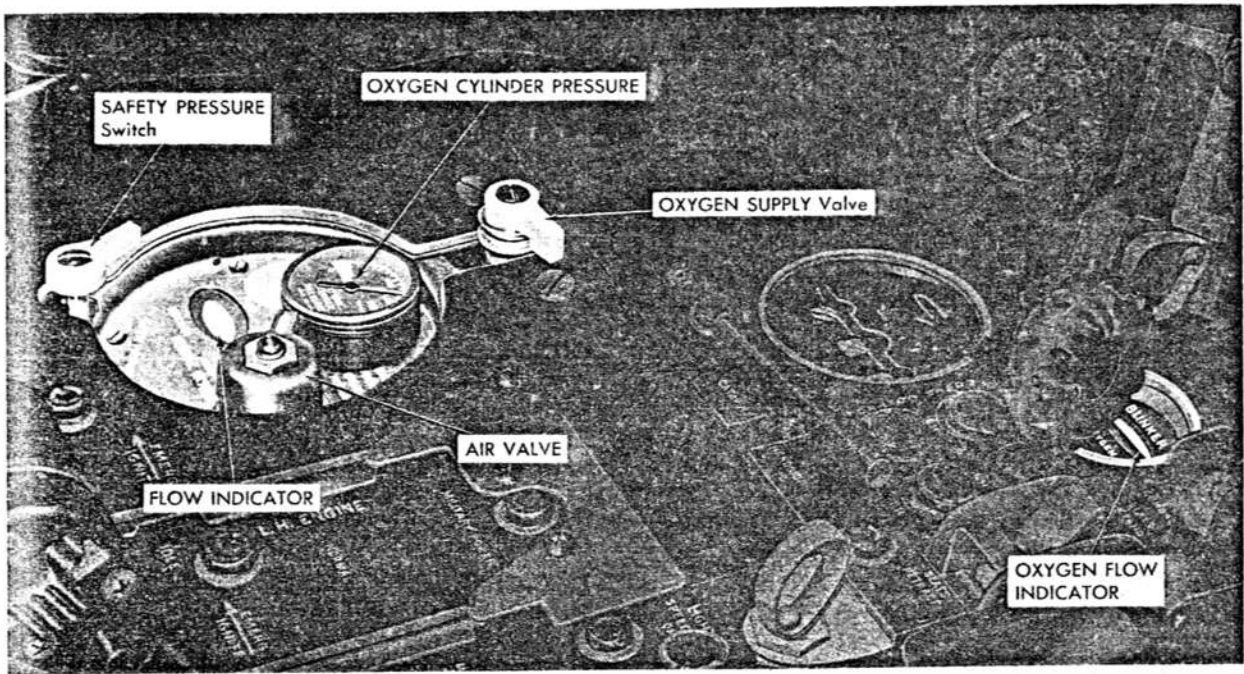

Figure 4-11. Oxygen Controls
**OXYGEN SUPPLY VALVE.** The OXYGEN SUPPLY valve (figure 4-11) is located on the forward part of the regulator and acts as a shutoff valve between the oxygen cylinder and the regulator. The valve should be turned "ON" during the preflight oxygen check and turned off at the end of the flight. The position of the OXYGEN SUPPLY valve does not affect the reading of the OXYGEN CYLINDER PRESSURE gage.
**AIR VALVE CONTROL.** The air valve control (figure 4-11) is located in the center of the regulator. When the control is turned to the "NORMAL OXYGEN" position, it controls the air-oxygen mixture ratio which supplies the pilot with an air-oxygen mixture up to a cabin pressure altitude of 30,000 feet and
pure oxygen at higher altitudes. When the control is turned to the "100% OXYGEN" position, the air supply is cut off and pure oxygen is supplied to the pilot regardless of the altitude. Oxygen flow is indicated by the blinking of the flow indicators (figure 4-11).
**SAFETY PRESSURE SWITCH.** The SAFETY PRESSURE switch (figure 4-11), located on the aft part of the regulator, is normally in the "OFF" position. When the switch is in the "ON" position, a pressure of  $1\frac{3}{4}$  ( $\pm\frac{1}{4}$ ) inches of water is built up inside the regulator. A steady stream of oxygen will be supplied to the pilot until the required internal regulator pressure is obtained; thereafter, enough oxygen will flow to the pilot (in addition to that demanded by inhalation) to maintain the required pressure. The pressure built up in the regulator increases the pressure inside the mask and prevents inboard leakage at the mask. The SAFETY PRESSURE switch does not function above 30,000-foot cabin pressure altitude since the automatic pressure breathing mechanism automatically increases the internal regulator pressure and supplies a steady stream of oxygen to the pilot at altitudes above 30,000 feet.